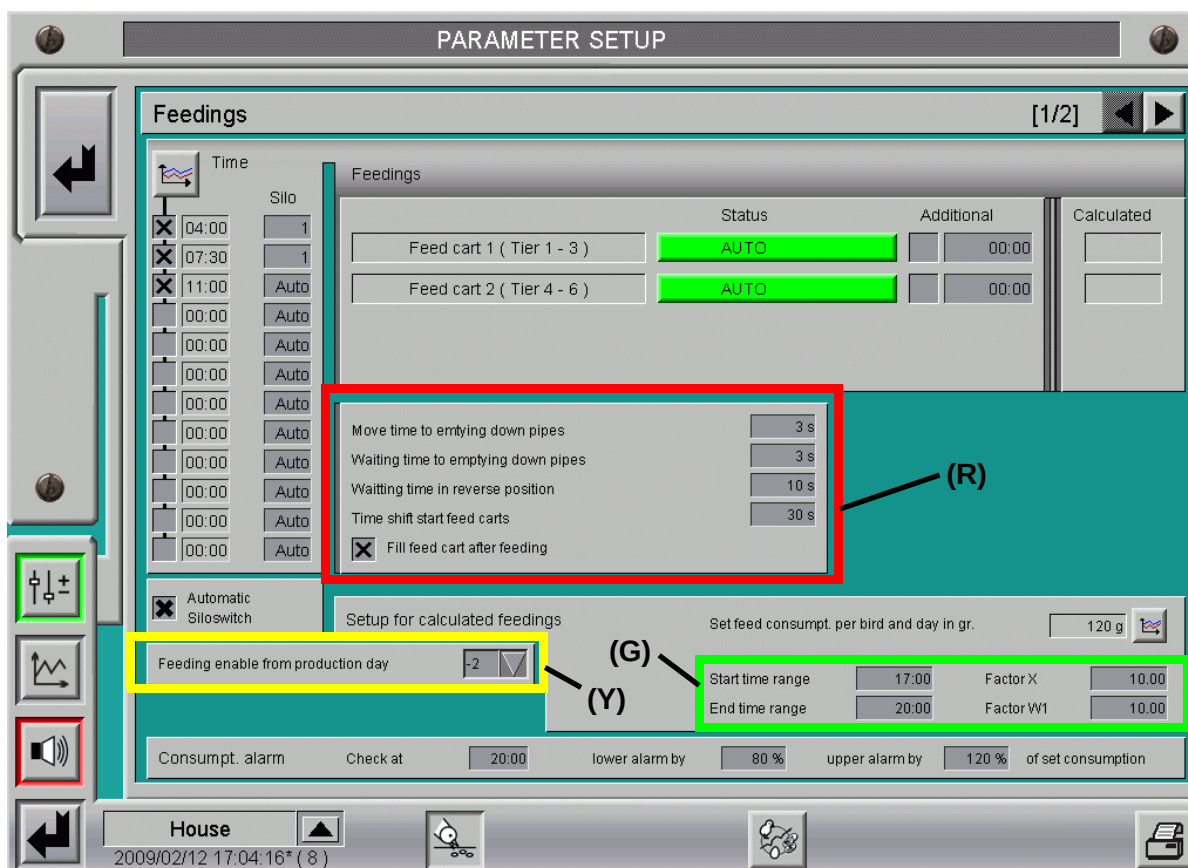

Figure 4-8: Limit the duration of the last feeding
In order to prefill the feed troughs so that the animals can eat directly when they are housed in, a corresponding entry can be made in the yellow (Y) marked field in figure 4-8. An entry of e.g. -2 means that the feed troughs can be filled 2 days before housing in.